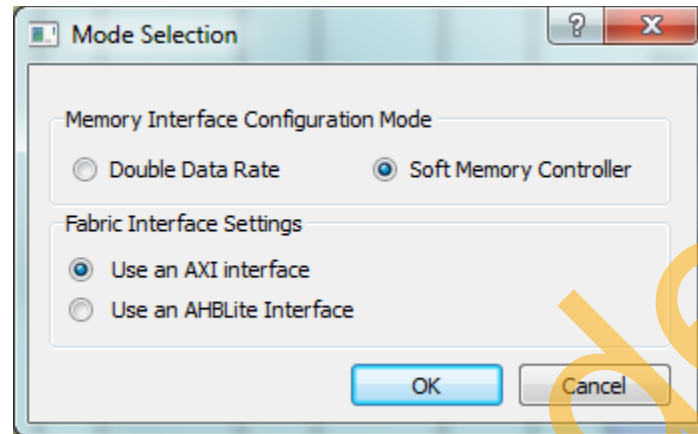

Figure 10. Mode Selection
3. Double-click the **MDDR** block and configure as shown in Figure 10.